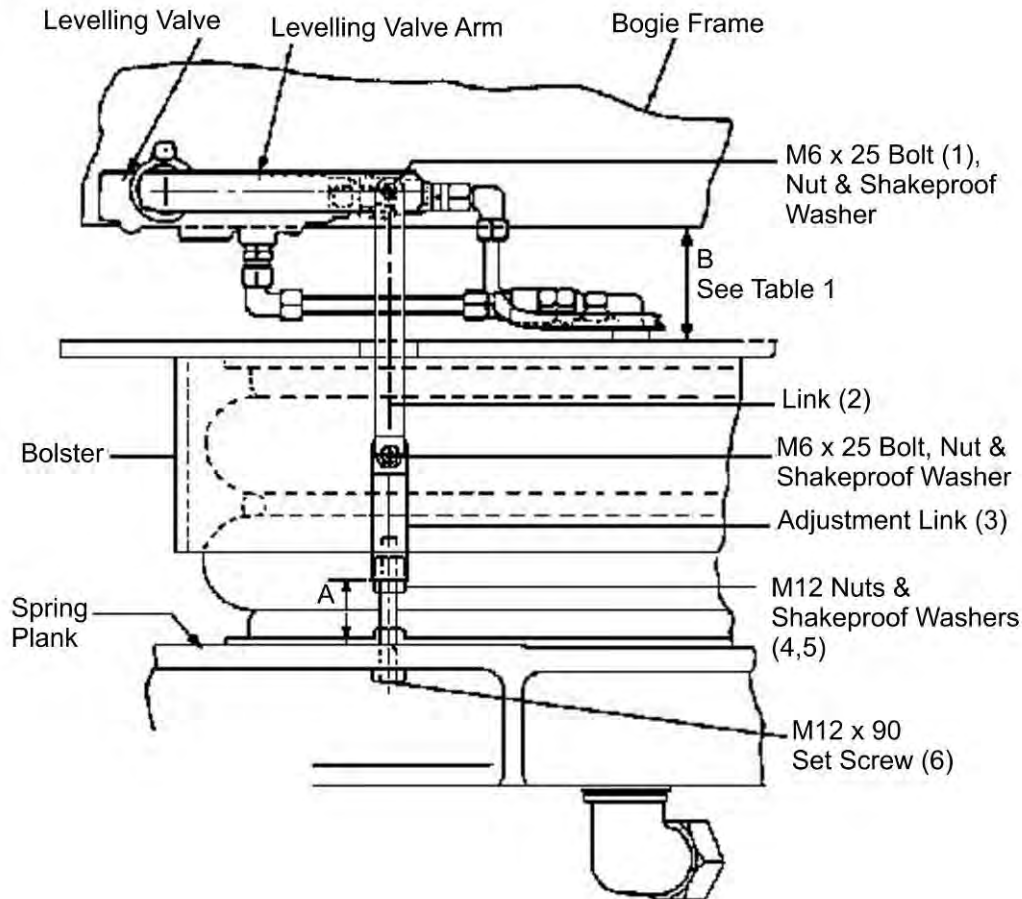

Figure 2: Arrangement of Levelling Valve Linkage
- 1.4 With all springs deflated remove the bolt (1) and slacken the lock nuts (4) and (5) (see Figure 2) at all four vehicle corners.
Table 1: Values of Dimension B (see Figure 2)
- 1.9 Check that screw 6 engages in item 3 on Figure 2 by at least 3 turns of thread. Renew screw 6 (M12 x 90) with a longer one if too short.